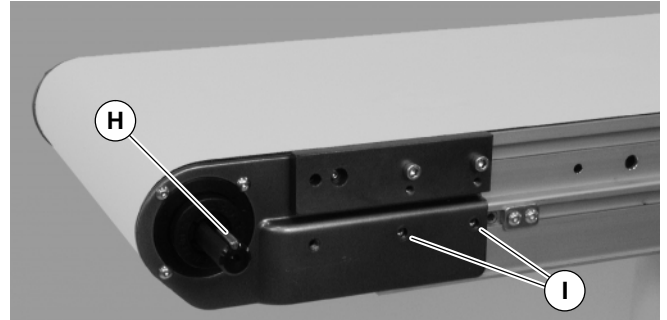

Figure 4
### 2. Locate drive output shaft. Remove screws (I of Figure 4). Install key (H).